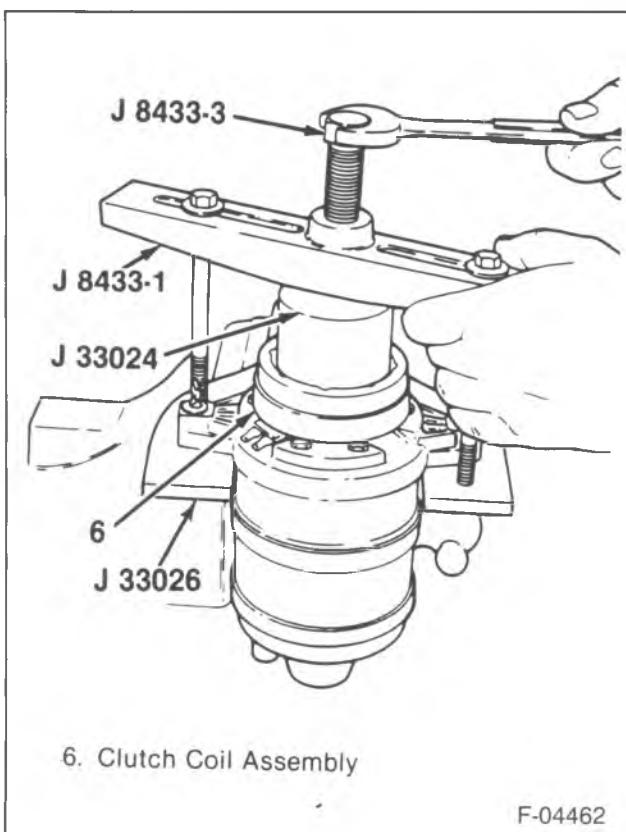

Figure 16—Removing the Clutch Coil Assembly
1. Clutch plate and hub assembly (2).
2. Pulley (5).
- Mark or scribe the location of the clutch coil (6) to terminal on the compressor front head (11).
3. Clutch coil assembly (6).
- Install J 33023-A on the head (11) of the compressor.
- Install J 8433-1 with J 33025 (figure 16).